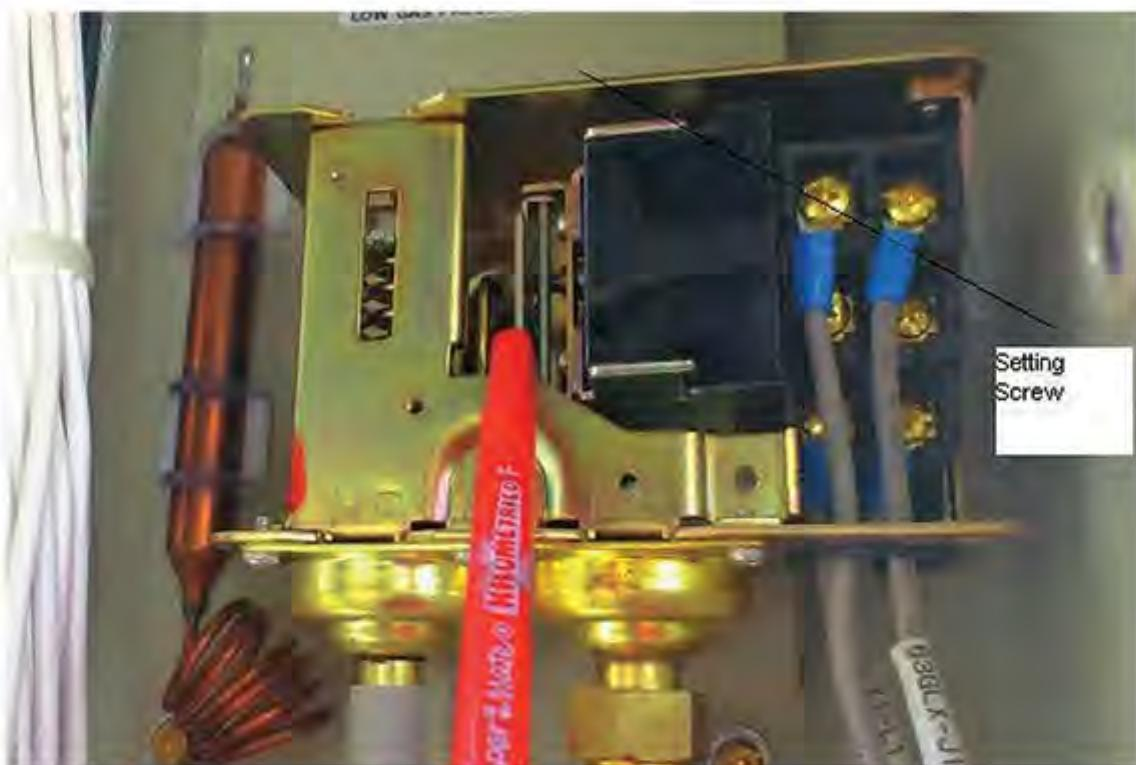

FIG. 8 CONSTRUCTION OF TEMPERATURE - COMPENSATED GAS PRESSURE SWITCH
2.7.1 Temperature-compensated Gas Pressure Switch (Fig. 8)
A switch is provided to monitor the density of the gas system. The switch compensates for changes in the pressure due to temperature and responds only to changes (gas leaks) in the density of the gas system. The switch (Fig. 8) has a plate which rotates about its center. At one end of the plate is a rod connected to a bellows and tubing going to a sealed sensing bulb containing SF6 gas at the same density as the gas system. If the pressure changes because of a leak in the gas system, then the plate will rotate causing the pressure switch contact to operate. The pressure switch has two sets of electrical contacts. One set of contacts (63GA) is the low pressure alarm, set to operate at 10% below the normal gas pressure. The second set of contacts is the low pressure cutout (63GL), set to operate at 20% below normal gas pressure. Setting pressure of the pressure switch is shown in table 2.1.